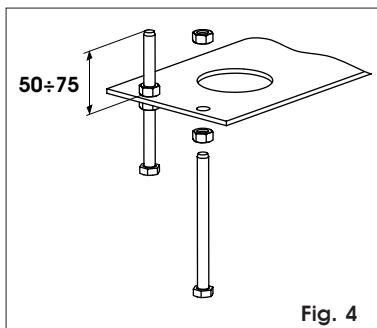

Fig. 4
- Assemble the foundation plate as shown in figure 4.
- Prepare a foundation plinth as shown in fig.4 and wall the foundation plate, supplying one or more sheaths for routing electric cables. Using a spirit level, check if the plate is perfectly level. Wait for the cement to set.